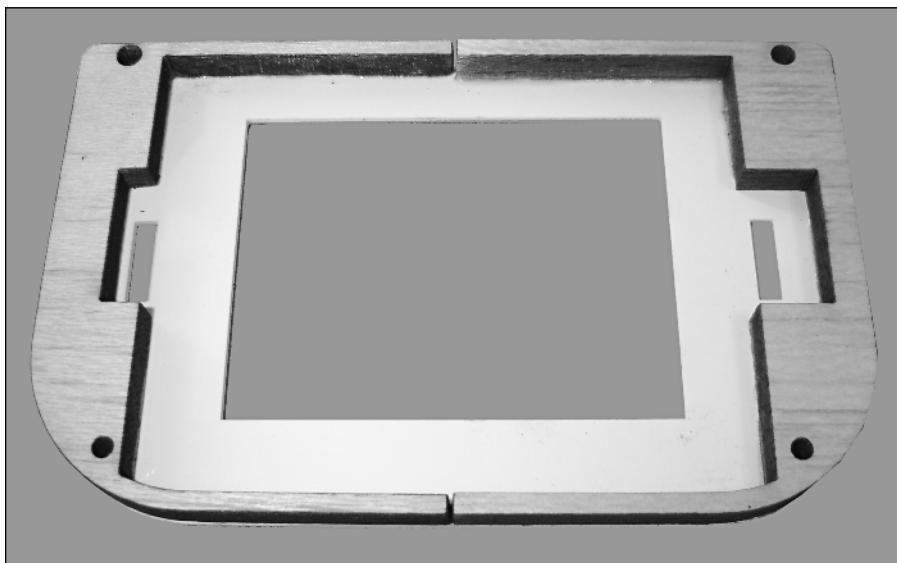

FIGURE 11-10: Completed screen riser.
2. Superglue the two *screen riser walls* down to the back of the screen plate. The curved part of the screen plate is the bottom. The screen riser wall with the bigger rectangle goes on the right-hand side, as viewed from the rear. (See Figure 11-10.)